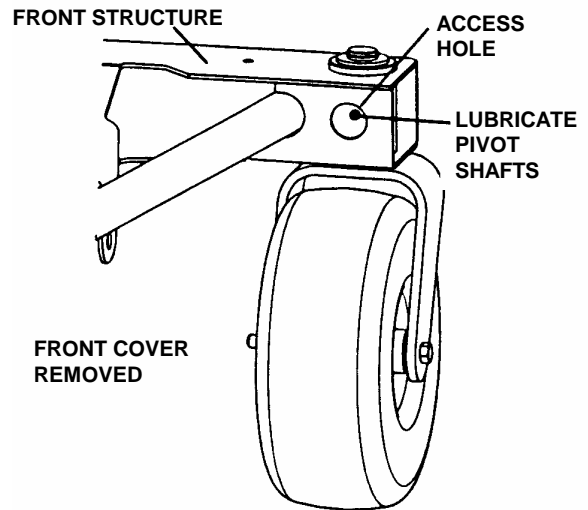

FIGURE 3.8
- The pivot shaft grease fitting can be accessed through a hole at the rear of the front structure. Lubricate pivot shaft with three shots of general purpose grease from grease gun. See Figure 3.8.